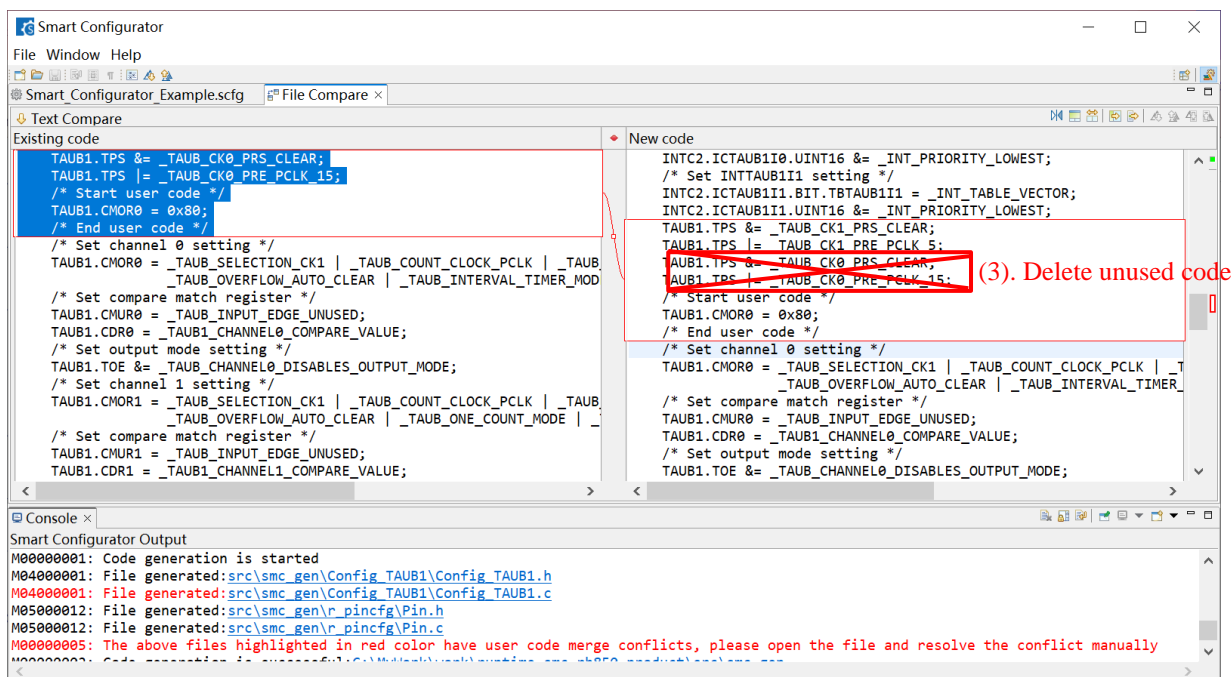

Figure 10-5 Code after applying “Copy Current Change from Left to Right”
- 3) Delete the codes that you do not want to use (Figure 10-5 Code after applying “Copy Current Change from Left to Right”).